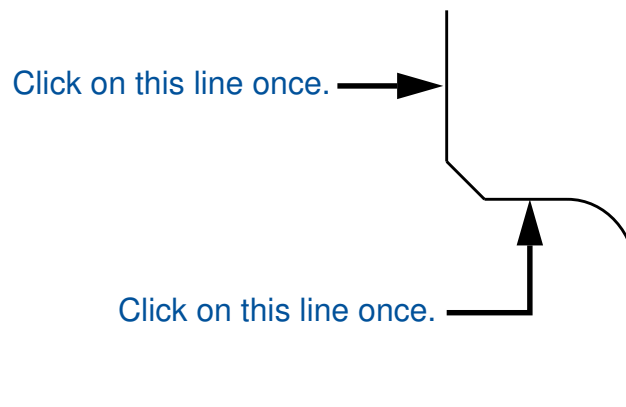

Figure 4-17. Locating the Basepoint for the First Drill Hole
3. Choose the **[Shapes] Move > Basepoint** menu item. Next, choose the **[Shapes] Snap > Intersection** menu item. Click the Select mouse button once on each of the two lines shown in Figure 4-17.